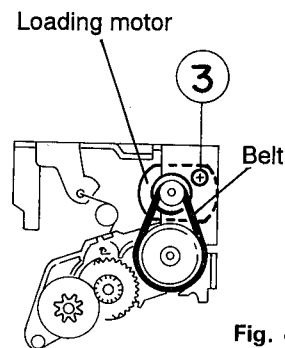

Fig. 4-15
2. Remove the one screw ③ retaining the loading motor (See Fig. 4-15).